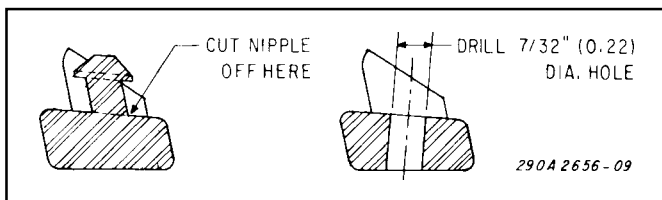

Figure 4.
A. Cut-off the center nipple on all four mounting pads (see figure 4).
B. Drill a 7/32" (0.22") hole in all four pads where the nipple was removed (see figure 4).
E. Adjust both mounting foot assemblies in or out until the rubber mounting pads rest near the edge of the roof or gutter where the roof is the most rigid. See figure 4.
F. See figure 4. Center the unit so that the end of the Light Assembly and edge of the roof are equally spaced on each side of the vehicle. Tighten the previously installed 3/8-16 hex nuts (two on each mounting foot).